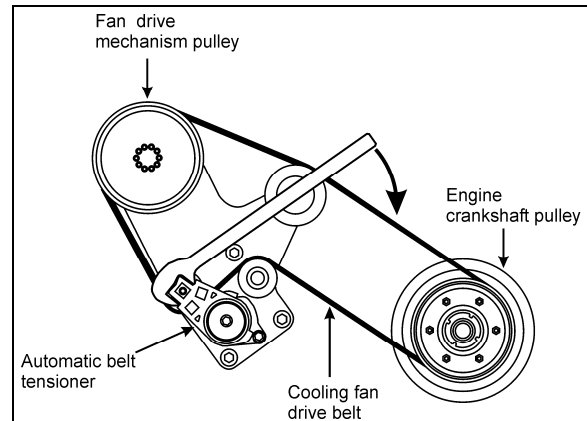

FIGURE 35: DRIVE BELT ROUTING (VOLVO D13 ENGINE)
1. Wrap the new drive belt around the fan drive mechanism pulley, the idlers and the automatic tensioner idler as shown on figure 35.
2. Using the special tool included with your vehicle (see inside the Warning Reflectors box located in the first curb-side baggage bay), rotate the automatic tensioner in clockwise direction to relieve tension on the belt and hold the tensioner in that position (Fig. 35).